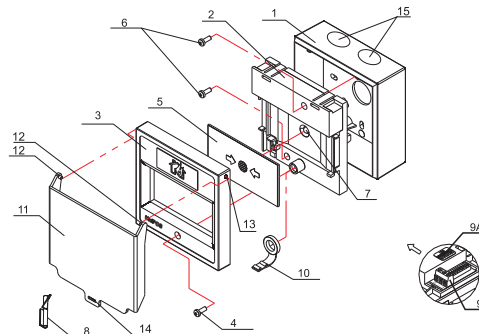

Fig.2
1. Tear off the breakable seal (pos.10, fig.2).
2. Open the protective cover (pos.11, fig.2).
3. Press the elastic element (pos.5, fig.2) in the designated by the arrows place. The build-in LED indicator lights up. The Fire Control Panel activates in "Fire condition".
3. Dismantle the cover (pos.3, fig.2) and replace the torn breakable seal.
4. Mount the cover back and lock the protective cover using the breakable seal (pos.11, fig.2).
- 1.1. Dismantle the detector by unscrewing the screws (pos.4, fig.2) and (pos.6, fig.2).
- 1.2. Consecutively add to the base of the manual call point the carrier unit, the elastic element (pos.5, fig.2) with the sticker to the cover, and the breakable seal (pos.5, fig.2). Screw the fixings (pos.4, fig.2) and (pos.6, fig.2).
- 1.3. Mount the protective cover (pos.11, fig.2) (if it is not factory mounted) to the cover (pos.3, fig.2), as carefully position the fixings (pos.12, fig.2) into the intended for that purpose openings (pos.13, fig.2).
- 1.4. Pass the spare end of the breakable seal through the opening of the protective cover (pos.14, fig.2). The protective cover is fixed to the front cover of the detector.
- 2.1. Dismantle the manual call point by unscrewing the screws (pos.4, fig.2) and (pos.6, fig.2).
- 2.2. If nozzles will be mounted, take off the plastic from the vacant places on the base (pos.15, fig.2). The openings with diameter Ø20 allow for connecting the nozzles.